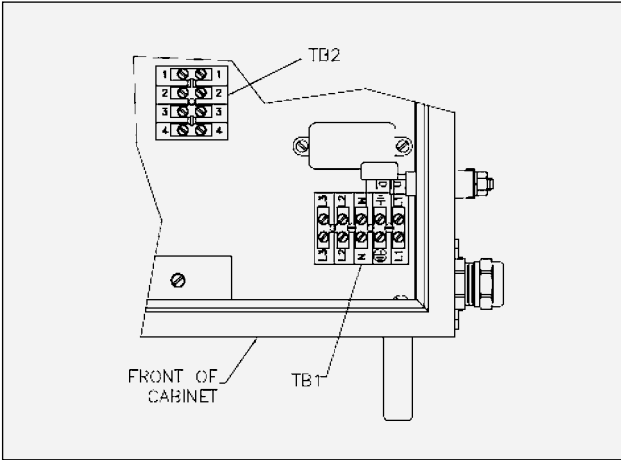

Figure 9: Location of TB1 & TB2 in Controller
1. Ensure the AC line cord is unplugged and remove the AC inlet receptacle wiring from TB1-N, TB1-L1 and TB1-EARTH GROUND (See Figures 9 and 10).
A set of relay contacts for high voltage (CR1) and fault (CR2) conditions is provided at TB2-4 and TB2-2 (See Figure 9). One end of these relay contacts are connected together and also connected to a source input terminal TB2-3 (See Figure 12). When a source voltage is present at TB2-3 and either the high voltage is on or a fault condition occurs, the source voltage will become available at the output end of the corresponding contact. Maximum contact ratings for the relays are as follows: